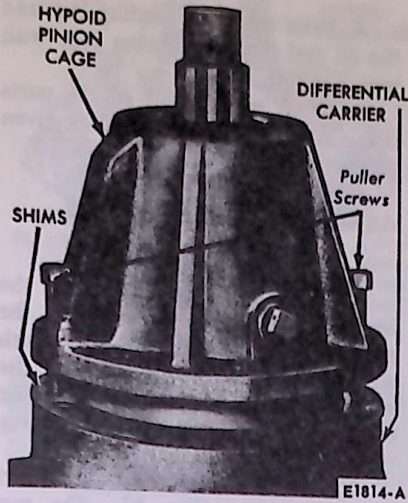

FIG. 12 Removing Drive Pinion Gear and Cage
11. Install two 3 inch 3/8-16 puller screws (Fig. 12) in the holes provided in the pinion cage for this purpose. Tighten the screws evenly, and remove the cage and pinion gear from the carrier.
12. Remove the pinion adjusting shims (Fig. 12) from the carrier. If the same hypoid gear set is to be used again when the carrier is assembled, the original shims should be installed at that time.